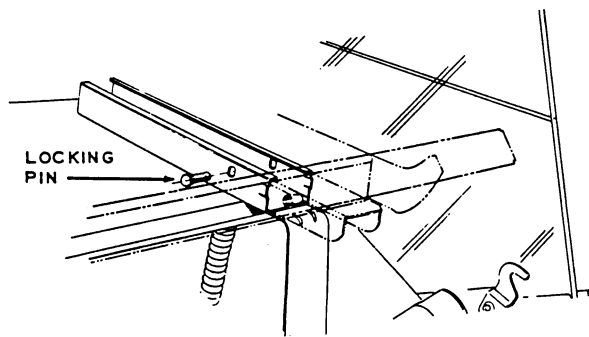

Figure 16.
2. Unlock mechanism frame by prying out and removing locking pins as shown in Figure 16.